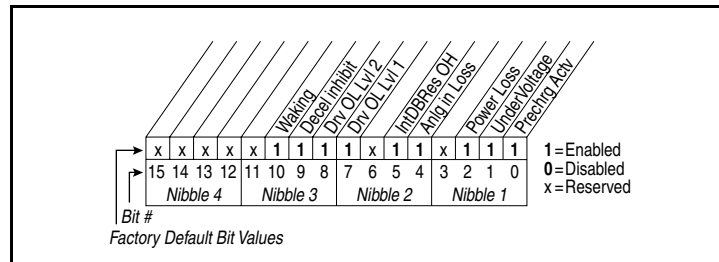

Figure 11.30 – Alarm Config 1 (259)
**Range:** See figure 11.30
**Default:** See figure 11.30